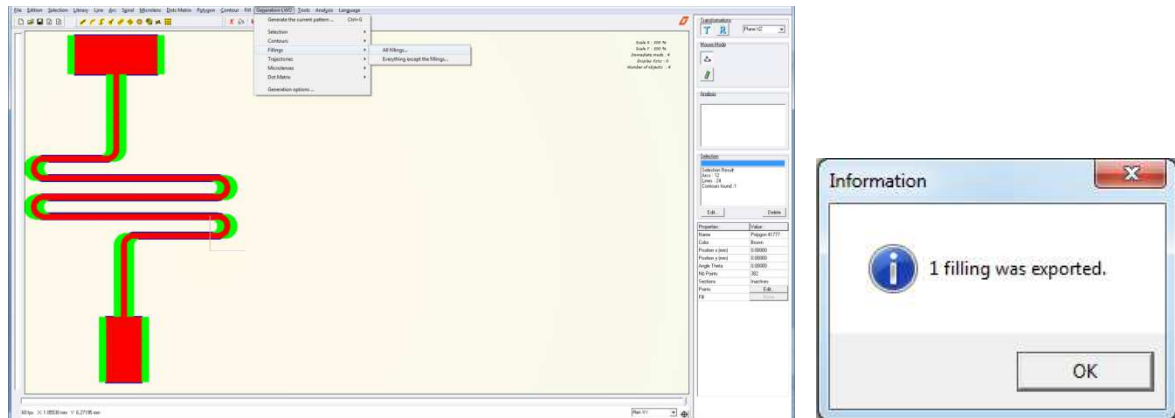

Fig 15 : Generation of the filling
- Click on “**Generation LWO > Fillings > All the fillings...**” (Fig 15).